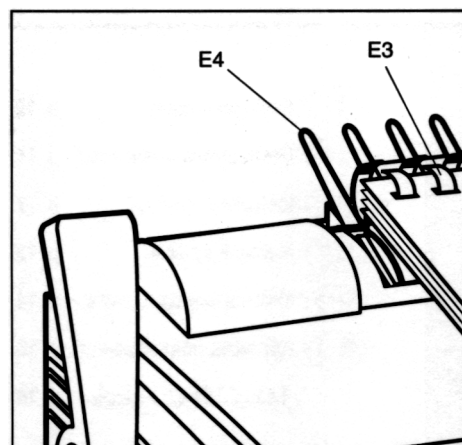

Figure 5
3. Thread front cover finished side facing down (see figure 5), onto open Binding Element Fingers (E3). Thread pages, front facing down, onto element. Repeat for large documents as required. Place the back cover, finished side facing upward on open Binding Element Fingers last.